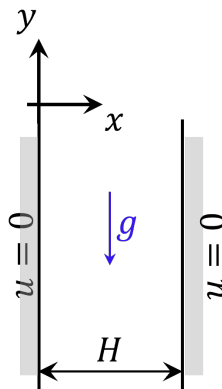

Figure Q2
2. Water falls steadily through the gap formed between two vertical, parallel, stationary, infinitely extended walls, as sketched in Fig. Q2. The steady-state momentum equation along the y -coordinate, for an incompressible and fully-developed flow, a Newtonian fluid, and in the absence of a pressure gradient driving the flow, can be written as follows:
Based on the equation above and the boundary conditions indicated in Fig. Q2: